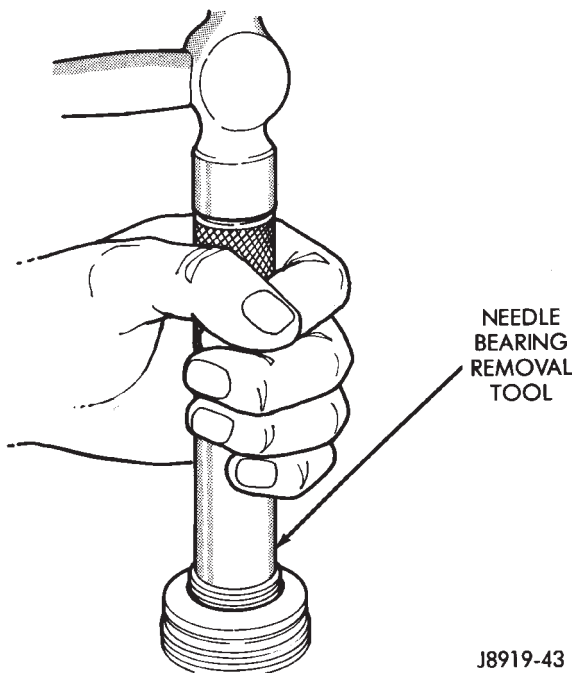

Fig. 22 Needle Bearing Removal
(5) Remove O-ring seal.
(6) Remove retaining snap ring.
(7) Remove needle bearing, dust seal and lip seal with tool C-4177 and handle C-4171 (Fig. 22).